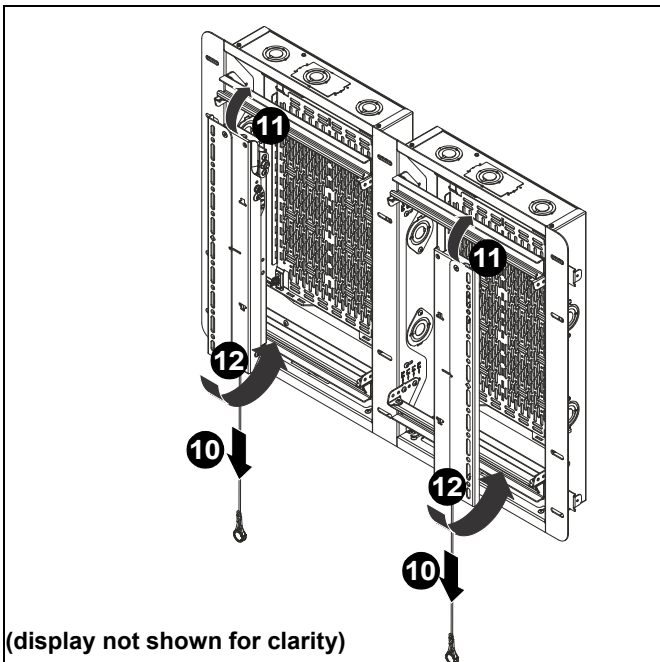

Figure 23
10. Lower home latch release cords on each interface bracket (A and B). (See Figure 23)
11. Raise display with attached interface brackets and hook top of brackets into top of mount. (See Figure 23)
12. Slide interface rail hooks under lower rail. (See Figure 23)